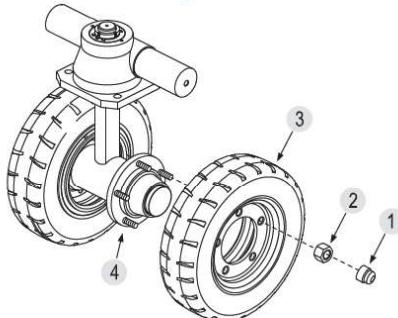

Figure 5-2 Rear Steering Wheels
4. Remove the five nut protectors (1, Figure 5-2).
5. Remove the five nuts (2) from the rear steering wheel assemblies (3)
6. Remove the steering wheel assembly (3) from the steering bridge (4).